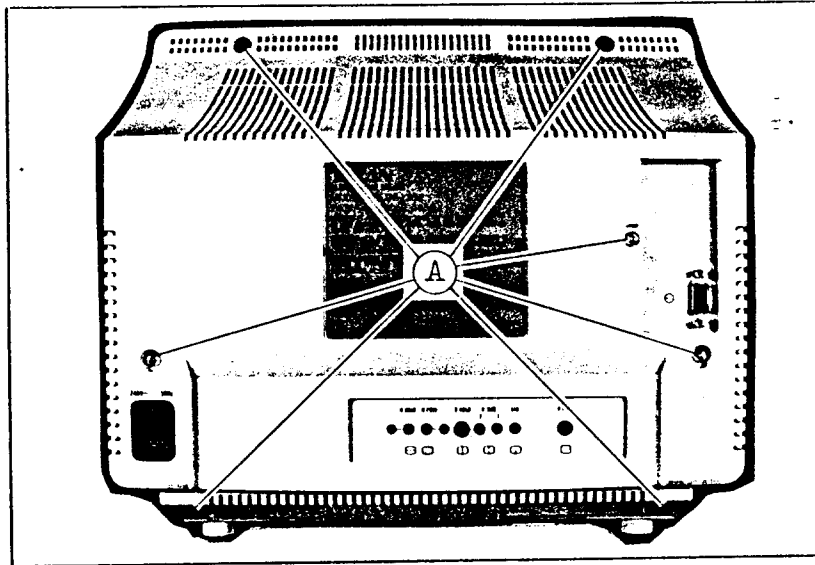

Fig. 1
1. Unplug the power supply cord and unscrew the seven screws marked (A) shown in Fig. 1.